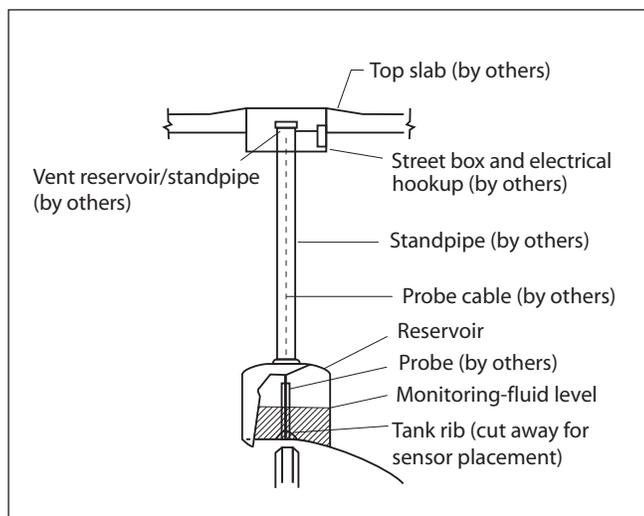

FIGURE 15-2
**NOTE:** When using a probe, do not raise it off the tank to meet the monitoring-fluid level. The probe must remain upright and in contact with the top of the tank at all times. See *FIGURE 15-2*.